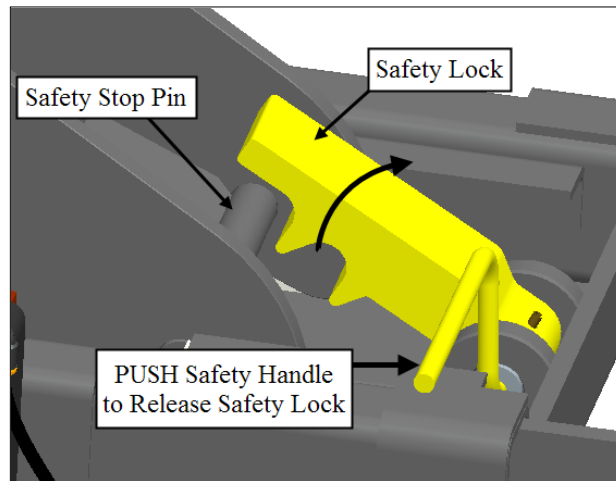

Figure 8-Release Safety Lock
1. Raise the Jackbeam off the mechanical safety lock. Then release the safety lock by pushing and holding the Safety Release Handle. See **Figure 8**.